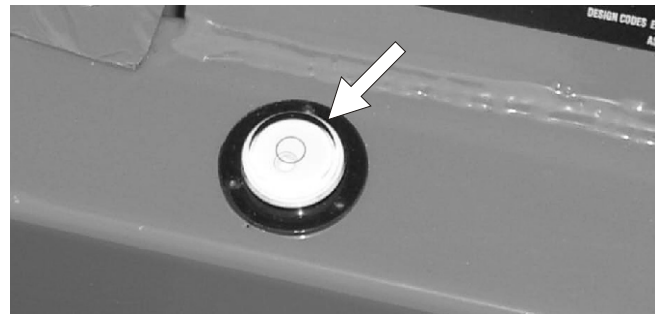
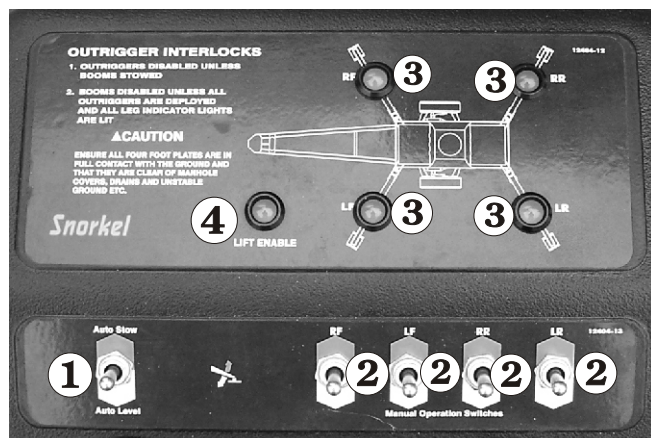

Figure 8.4
Figure 8.5 - Auto Level Controls
Lower the rear stabilisers and level the machine using the level bubble (see Figure 8.4) adjacent to the control levers.
1. Operate each switch **2** (see Figure 8.5) to raise or lower each stabiliser one at a time. Use the level bubble (see Figure 8.4) to check the machine is level.